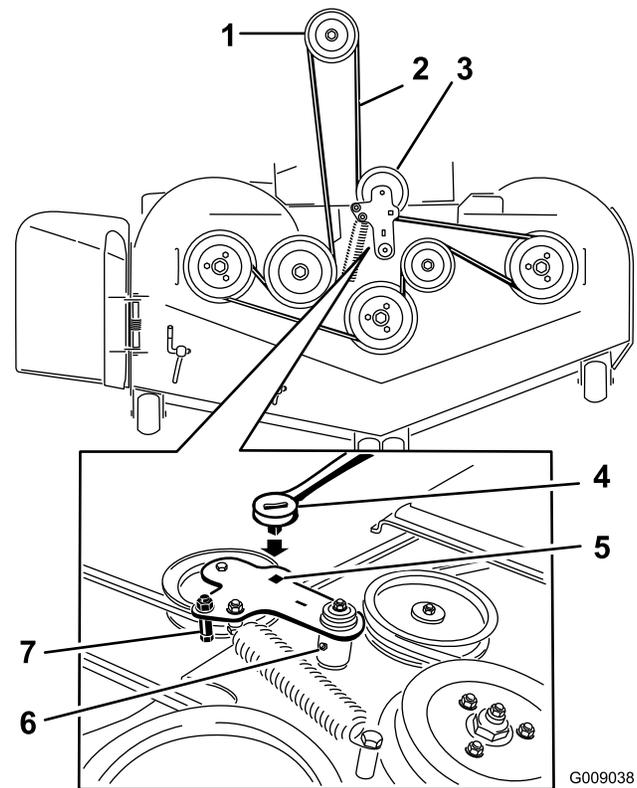

Figure 91
12. Install the belt guide on the idler arm (Figure 91).
13. Using the ratchet in the square hole, install the idler spring (Figure 91).
7. Use a ratchet in the square hole in the idler arm to remove tension on the idler spring (Figure 91).
9. Remove the belt guide on the spring-loaded idler arm (Figure 91).
11. Install the new belt around the mower pulleys and the clutch pulley under the engine (Figure 91).